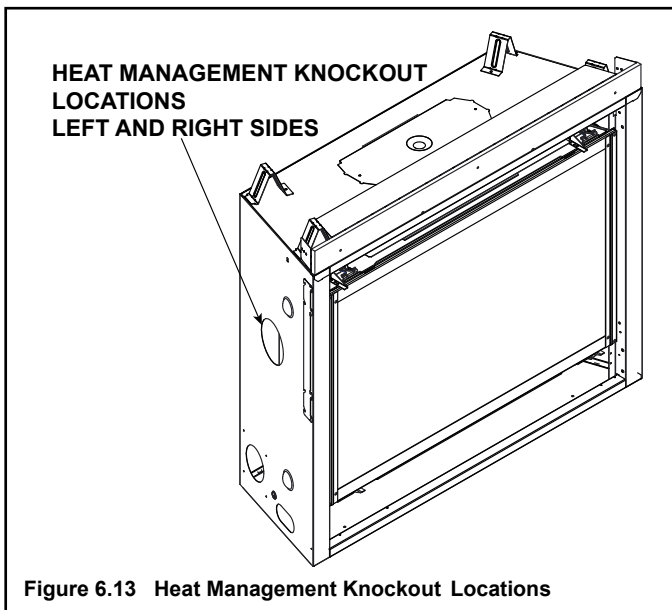

Figure 6.13 Heat Management Knockout Locations
- Locate the knockouts on the left and right sides of the appliance. Either one or two heat management may be installed. See Figure 6.13. Remove the knockout(s) from the appliance with a tin snips.